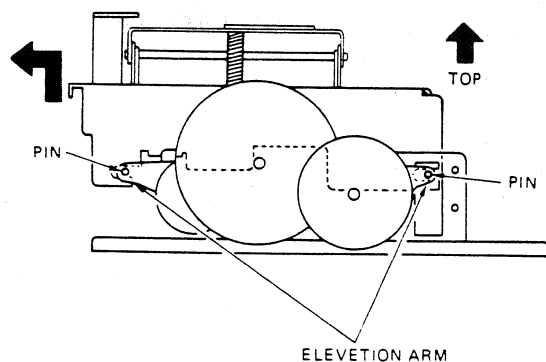

Fig. 11
- 2) The turntable is attached by 4 elevationarm pins. Move the turntable ass'y to the left viewed from the back to release the pins and remove the assembly. (Fig. 11)